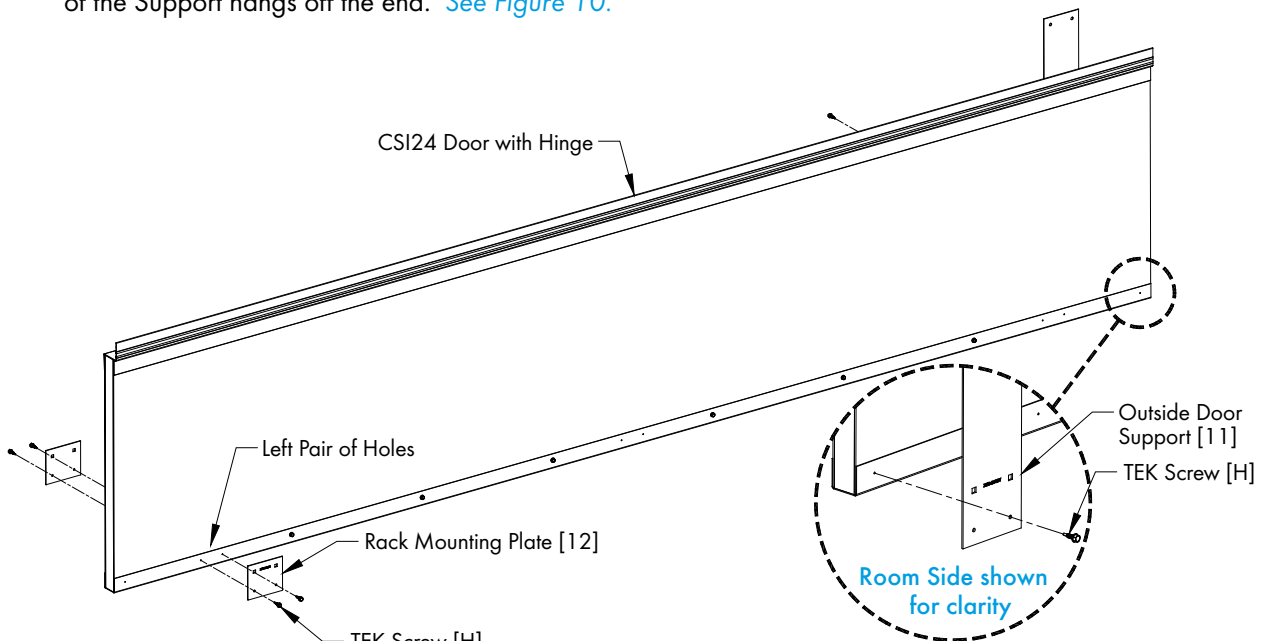

Figure 10
Attach a Rack Mounting Plate [12] on each side of the door to the left pair of holes in the Door Edge Trim using (2) TEK Screws [H] per Plate. See Figure 10. Then attach an Outside Door Support [11] (24") at the right end of the CSI24 Door, on the room side, so that half of the Support is on the Door and the other half of the Support hangs off the end. See Figure 10.